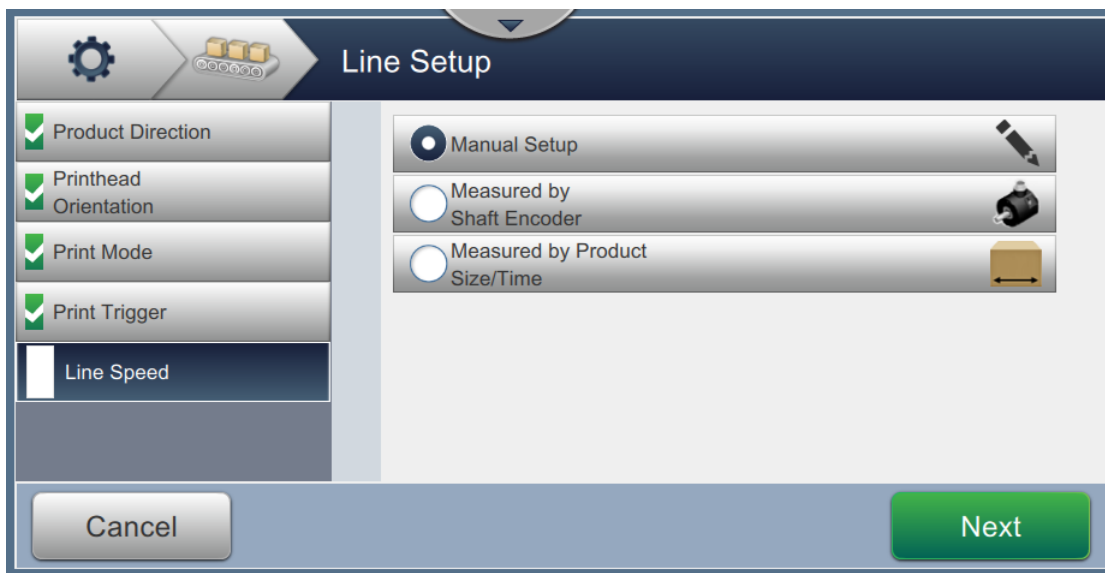

Figure 6-34: Line Setup - Line Speed
1. Touch the *Line Speed* in the Line Setup Setting screen, select the required line speed as shown in Figure 6-34. Touch the  button to set the line speed.
1. Select the *Manual Setup* as shown in Figure 6-34. Touch the  button to enter the required settings.
1. Select the *Measured by Shaft Encoder* as shown in Figure 6-34. Touch the  button to enter the required settings.
1. Touch the *Measured by Product size/time* as shown in Figure 6-34. Touch the  button to enter the required settings.